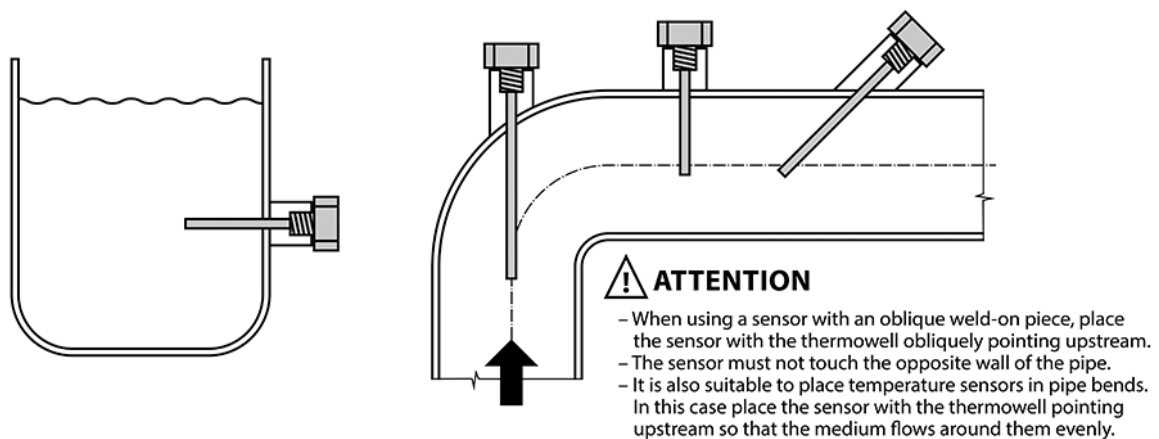

Fig. 20 – Examples of the installation of straight and oblique weld-on pieces
- The methods of installation of straight and oblique weld-on pieces according to CSN 1434-2 are shown in Fig. 20.